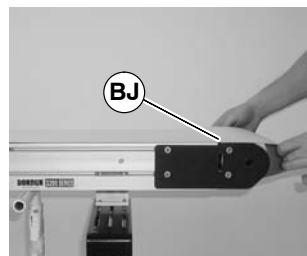

Figure 41
3. Install belt (BJ of Figure 41) on conveyor. Lift conveyor slightly to avoid pinching belt on temporary support stands.